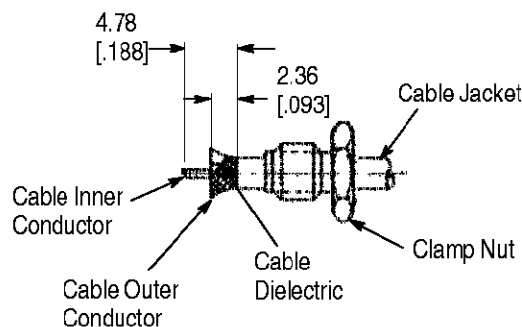

Figure 3
2.1. Preparing the Coaxial Cable End (Figure 3)
6. Flare the outer conductor, as shown in Figure 3.